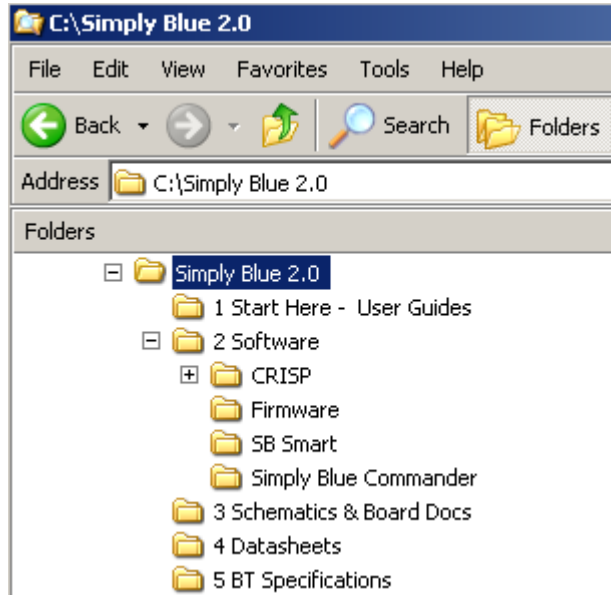

Figure 2-2. Simply Blue Default Directory
- 2) Click the *Install Software* button. Reference Figure 2-2 on page 2. This will install documentation, SB Smart and Simply Blue Commander. Please browse the CD.